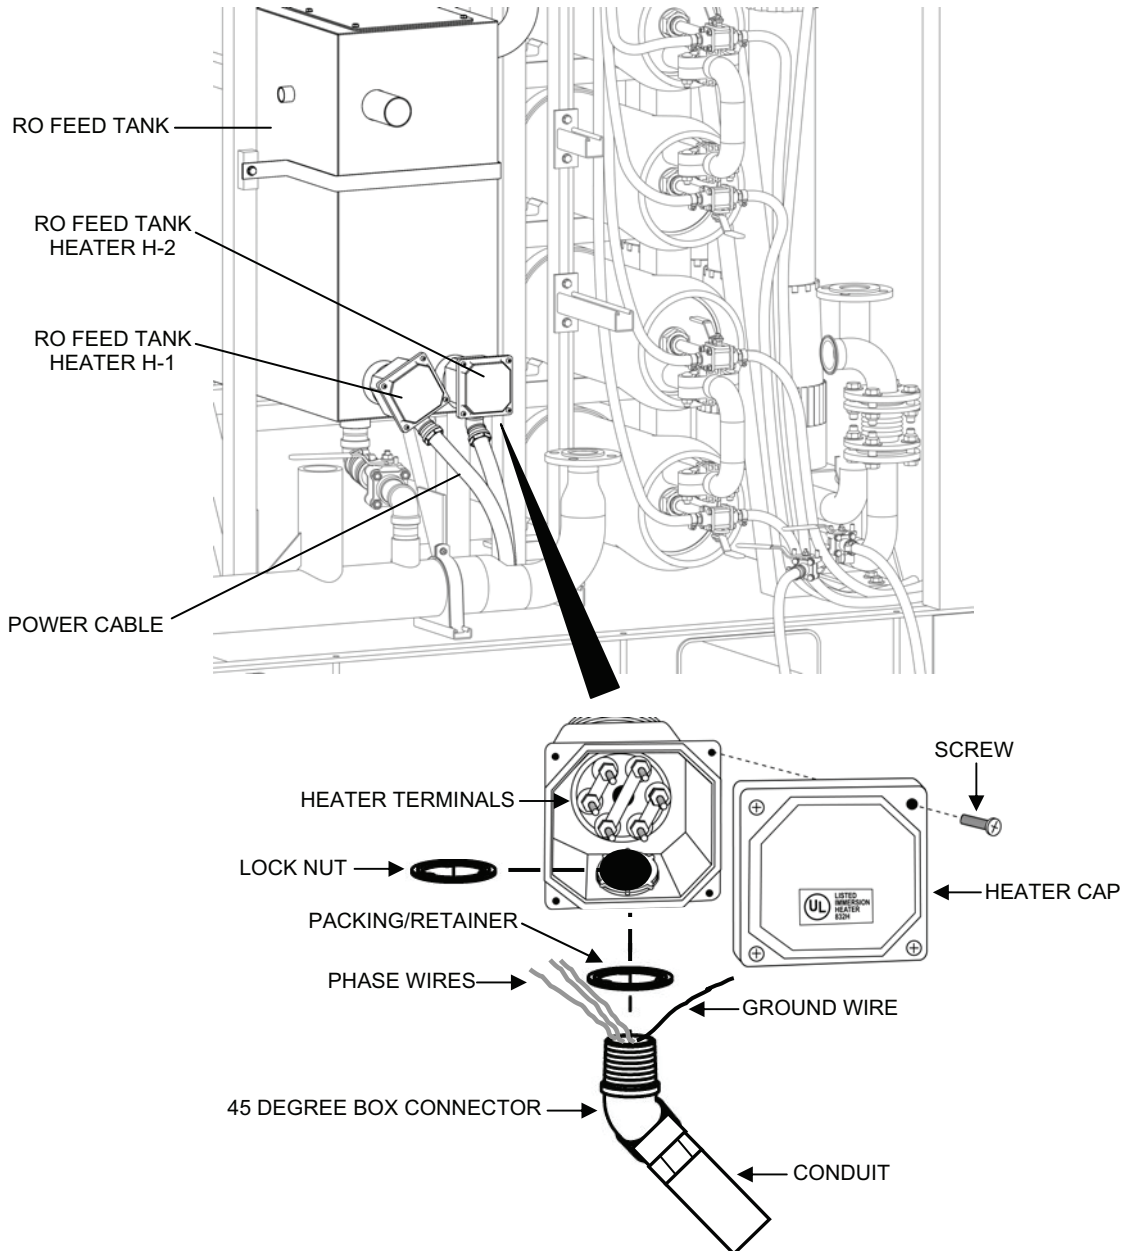

Figure 6. Heater Cable Removal.
6. Disconnect the power cables from RO Feed Tank Heaters H-1 and H-2 as follows (see Figure 6):
4. Connect the power cables to both RO feed tank heaters H-1 and H-2 as follows (see Figure 6):